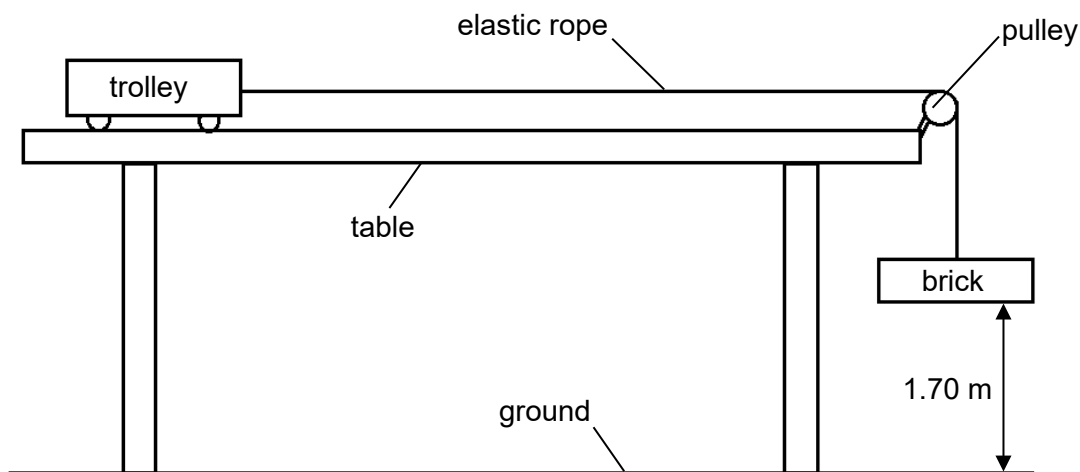

Fig. 5.1
- 5 Fig. 5.1 shows a movable trolley on a smooth table, attached to a brick by means of a light elastic rope. The elastic rope is supported by a smooth pulley.